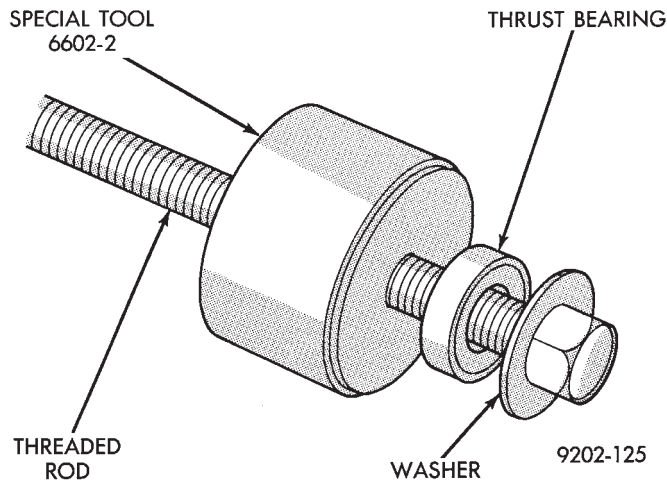

Fig. 9 Bushing Installer Tools
(1) Remove the special tools from the lower control arm that were used for installing the small pivot bushing.
(2) On the threaded rod from Remover/Installer, Special Tool 6602 assemble the following pieces. Washer, thrust bearing, Cup Special Tool 6602-2 (Fig. 9).